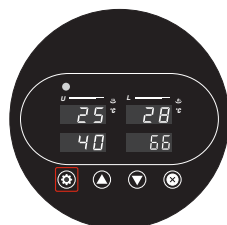

Fig. 1
1. Press Set ⚙ button on the control panel (Fig. 1) to go to the temperature setting mode for the top heat platen.